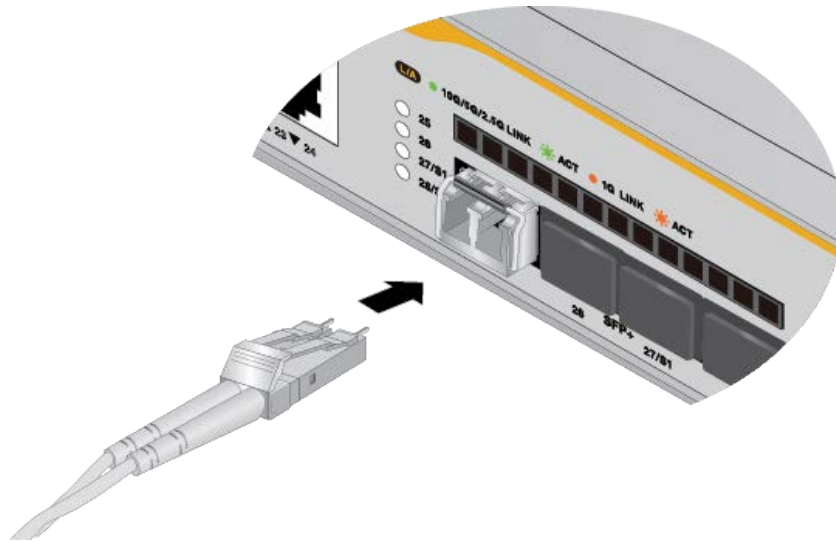

Figure 47. Connecting a Fiber Optic Cable to an SFP or SFP+ Transceiver
7. Connect the fiber optic cable to the transceiver, as shown in Figure 47 on page 119. The connector on the cable should fit snugly into the port, and the tab should lock the connector into place.